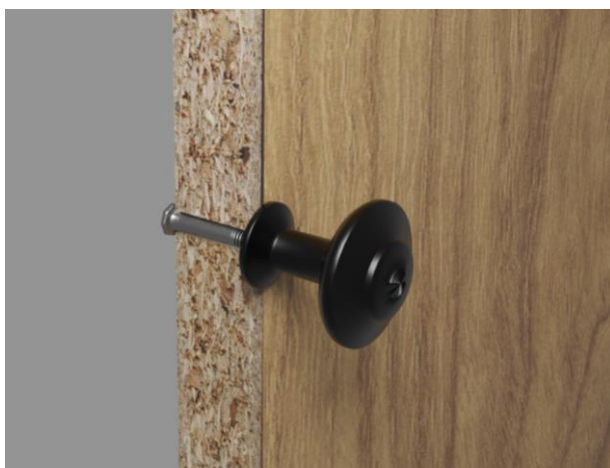

Figure 20
- Handles or similar, which are screwed into the surface of the board, should be tightened as evenly as possible and not too tightly, otherwise indentations may occur in the boards (Fig. 20).